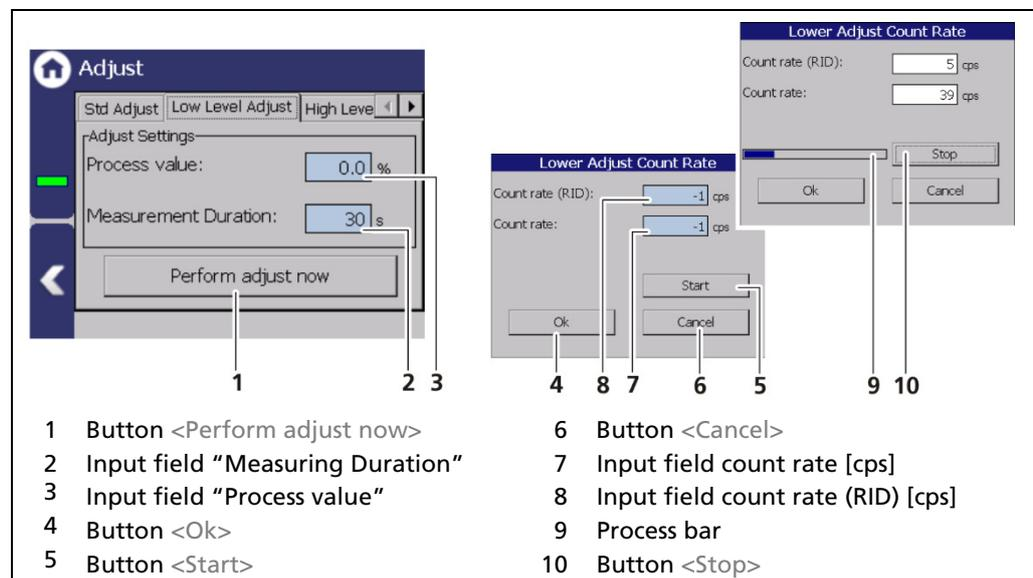

Fig. 89 Lower adjustment
1. Click on the field Process value (Fig. 89, item 3) to open the input field.
3. Click on the "Measuring Duration" field (Fig. 89, item 2) and specify the duration of measurement in seconds. The higher you set the measurement time, the more accurate the result.
4. Click on the button <Perform adjust now> (Fig. 89, item 1).
- 5. Click on the button <Start> (Fig. 89, item 5).